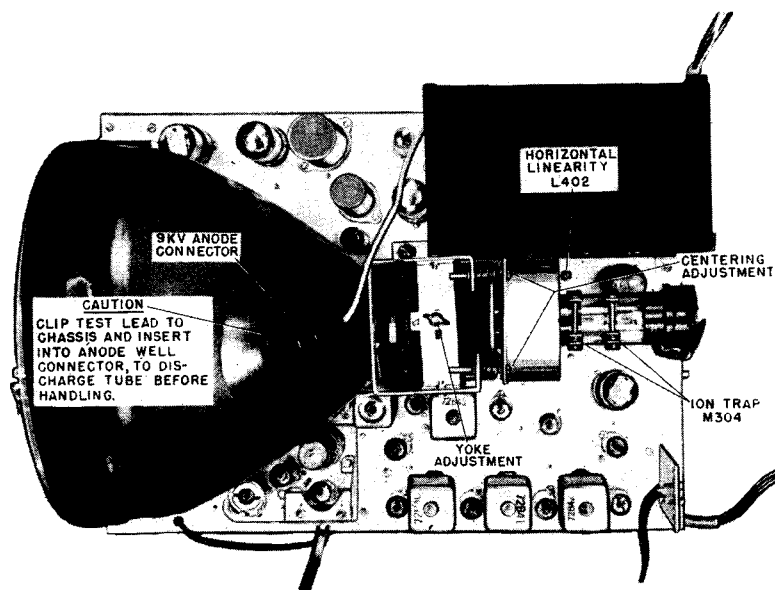
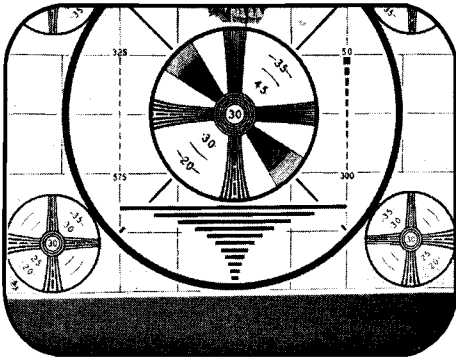
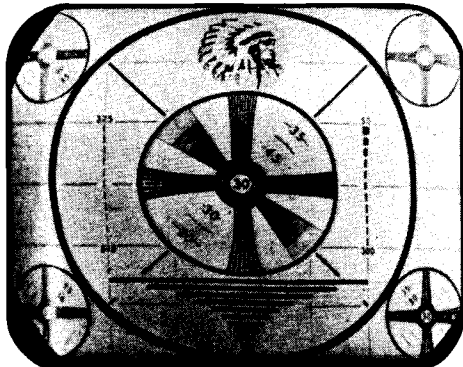

Fig. 5-14. Receiver Chassis, Top View Showing 10" or 12" Picture Tube
Fig. 5-15. Picture Too High or Too Low; Adjust Mechanical Position of Focus Coil
Fig. 5-22. Non-Linear Horizontally; Adjust HOR. DRIVE Control
If the picture is not centered on the screen (Figures 5-15 and 5-16), it may be corrected by adjusting the screws holding the focus coil assembly (see Figure 5-14 or 5-20). Should the focus coil require excessive tilting to obtain proper centering, it may be necessary to slightly orient (reposition) the deflection yoke bracket.
- If horizontal non-linearity (Figure 5-22) cannot be corrected by horizontal drive control adjustment, further adjustment can be obtained by means of horizontal linearity control L402 (Figure 5-14).